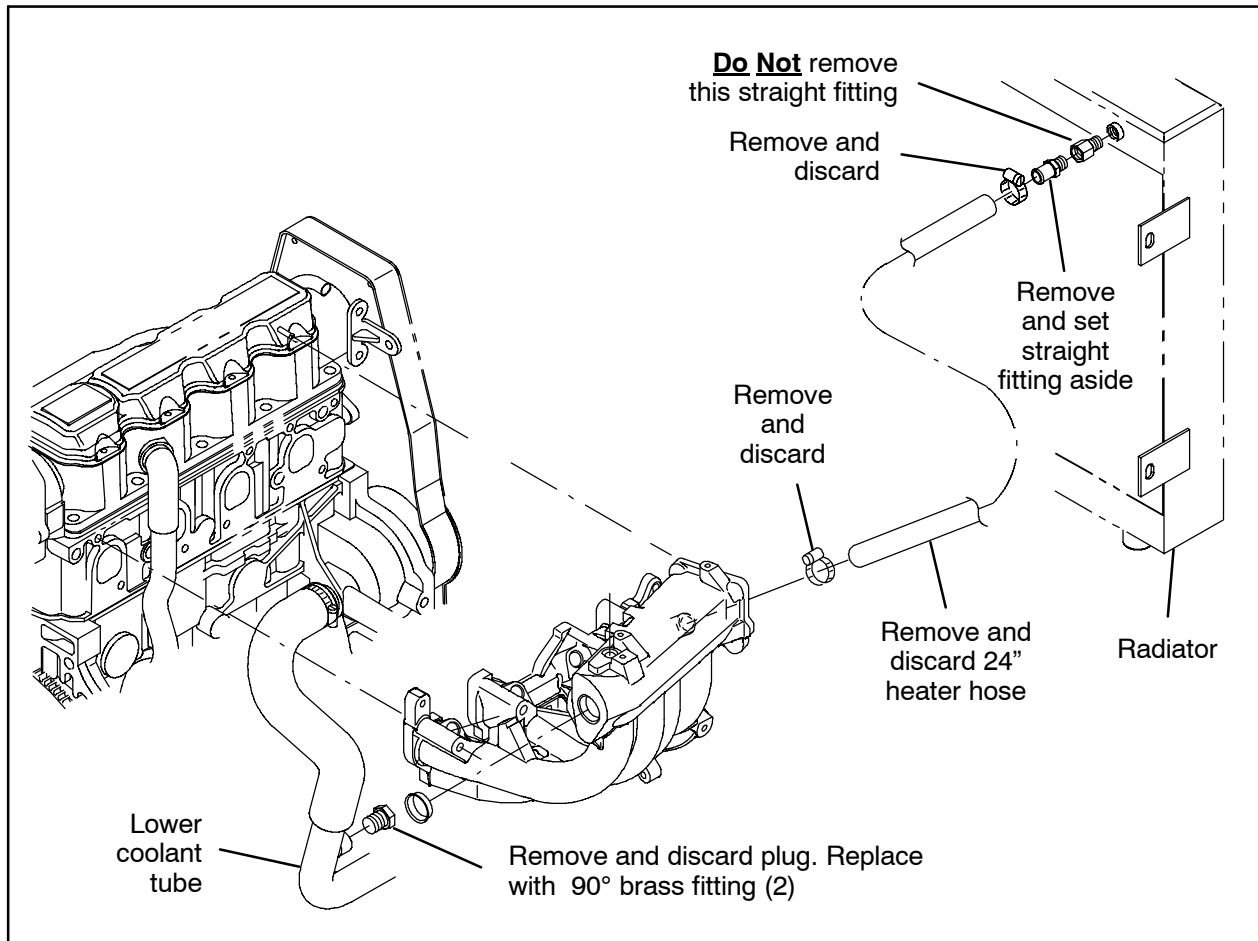

FIG. 1
1. Disconnect the heater hose from the radiator and engine. Discard the heater hose and hose clamps. Refer to Fig. 1.
2. Remove the straight brass fitting from the radiator. Set the straight fitting aside. Refer to Fig. 1.